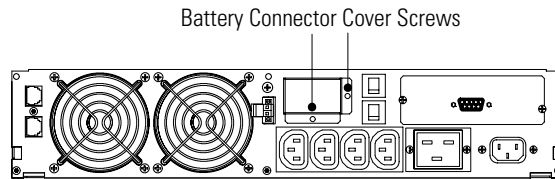

Figure 8. Battery Connector Cover (230V UPSs Only)
4. 230V UPS models have a battery connector cover that must be removed before installing the EBM(s). Remove the cover from the rear panel as shown in Figure 8.